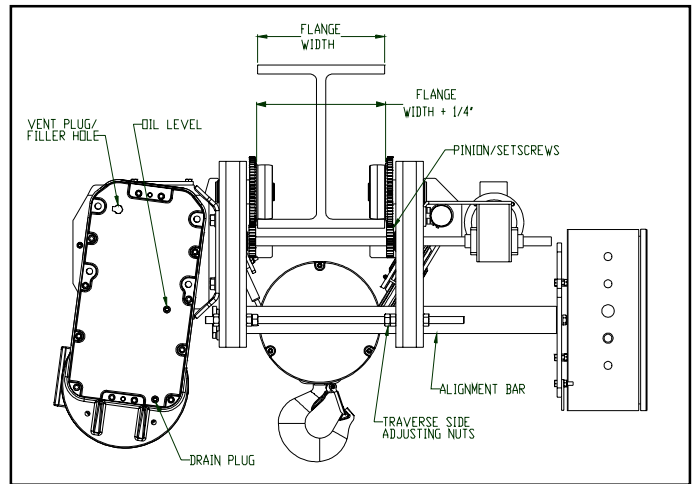

Figure 2-1. Trolley Wheel Spacing ("B" & "C" Frame Shown)
OPEN-END BEAM: If the trolley can be installed directly from the end of the supporting beam, adjust the spacing between the trolley wheel flanges to be 3/16"-1/4" greater than the exact width of the beam flange (See Figure 2-1). Before adjusting the width of the trolley frame, make sure to loosen the pinion set screws nearest the traverse drive on the keyed cross shaft and those on the traverse reducer. Do not lose the keys for the pinion and reducer during adjustment. Also, the electrical conduit/cable must not be constrained when attempting to adjust the trolley sides, in or out. The trolley width is adjusted by loosening the jam nuts on the traverse drive side of the threaded rods at each end of the hoist. If necessary, lubricate the frame alignment bars with penetrating oil before attempting to adjust trolley width. The trolley side may then be pushed or driven into position by turning the adjusting nuts on the threaded rods. Adjust nuts on each side of the hoist simultaneously, to avoid binding. After adjusting the trolley to the proper width, tighten all adjusting nuts and setscrews, and re-secure the electrical conduit/cable. Verify that the geared wheels mesh properly with the traverse drive pinions. Using proper equipment, carefully lift the hoist and install on the end of the beam. Lubricate the wheel gear and pinion (**WG**, Section IV, Paragraph 4-5).
CLOSE-END BEAM: For trolleys which are to be mounted along the span of a beam not having open ends, the trolley must be adjusted in the same manner as described above to a width that allows clearance between the axle ends and the beam flange. Using proper lifting equipment, the trolley and hoist must then be lifted to the beam where it is to be installed. Once in position, adjust the spacing between the trolley wheel flanges to be 3/16"-1/4" greater than the exact width of the beam flange (See Figure 2-1). After tightening all adjusting bolts, set screws, and all electrical conduit/cable clamps, carefully set the trolley on the beam. Lubricate the wheel gear and pinion (**WG**, Section IV, Paragraph 4-5).
- a) Check Oil Level. (Figure 2-1) The gearcase has been filled with oil to the proper level. However, this should be rechecked before operating the hoist.
Check oil level by removing the plug indicated in Figure 2-1. When properly filled, oil should be level with the bottom of the tapped hole. Fill to this level with oil as specified in Paragraph 4-2.e.